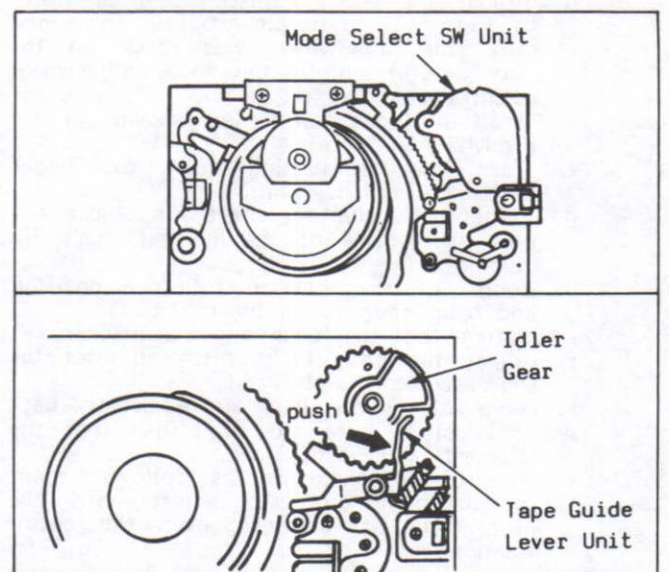

Fig.M11
- (3) Remove the Cassette Up Holder, LP Head Amp, Head Amp Holder and Mode Select Switch Unit.
- (4) Take out the Idler Gear while pushing on the Tape Guide Lever Unit until it clears the Idler Gear Teeth as shown in Fig. M11.